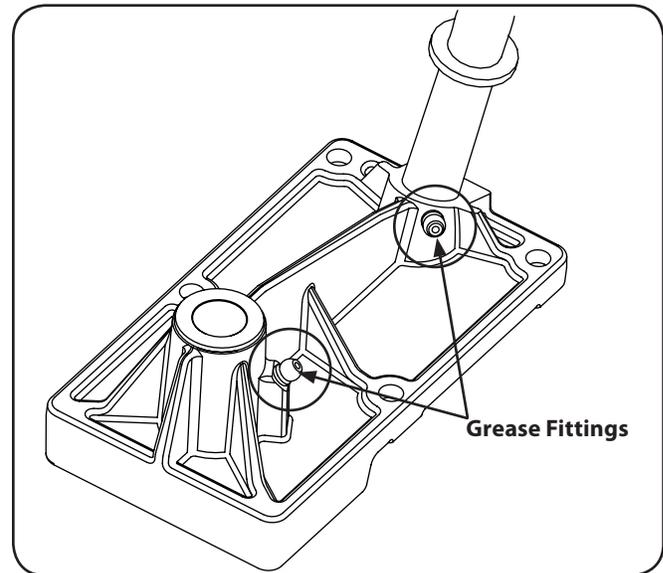

Figure 6-5
2. Locate the grease fitting for the steering housing and steering shaft under the battery. See Figure 6-5.